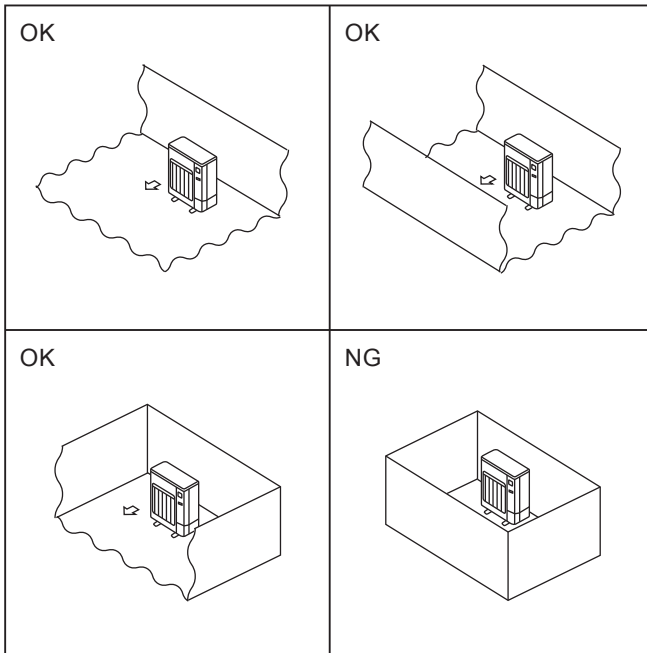

Fig. 1-2
- Ⓒ Install outdoor units in a place where at least one of the four sides is open, and in a sufficiently large space without depressions. (Fig. 1-2)